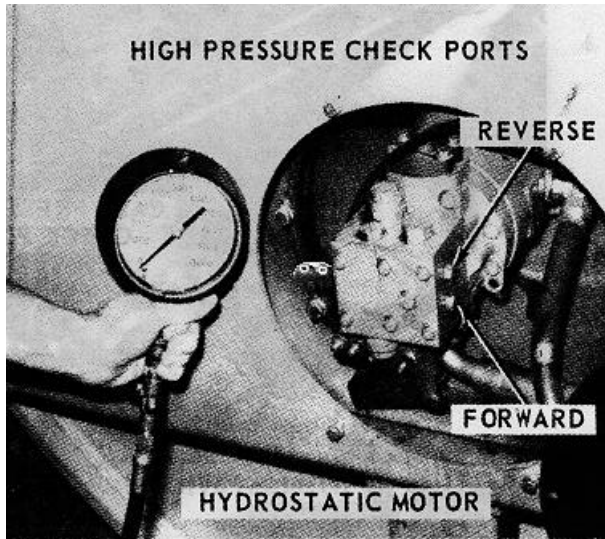

FIGURE 7-39.
7-162. CHECKING HIGH PRESSURE RELIEF (see figure 7-39).
7-163. The pressure in the high-pressure lines should be 5500 PSI (386.7 kg/cm^2) when the transmission is in a stalled condition. Two (2) high-pressure relief valves are located in the motor manifold as shown in figure 7-39. Two (2) check ports are located at the side of the manifold for checking the setting of the relief valves. Check the high-pressure valves as follows:
- c. Connect a 10,000 PSI (700 kg/cm^2) gauge to the REVERSE check port (see figure 7-39).
- e. Slowly move the Direction-Throttle Control Bail in the Reverse direction from neutral and bring the unit to stall. Observe the pressure gauge. With the transmission stalled, the gauge should indicate 5500 PSI (386.7 kg/cm^2). If not, stop the engine and remove the two (2) high-pressure relief valves. It will be necessary to disconnect the two (2) high-pressure hoses.
- g. If pressure reading at Reverse port was normal then connect the gauge to the FORWARD check port (see figure 7-39).
- i. Slowly move the Direction-Throttle Control Bail in the Forward direction from neutral and bring the unit to stall. Observe the pressure gauge. With the transmission stalled, the gauge should indicate 5500 PSI (386.7 kg/cm^2). If not, stop the engine and remove the two (2) high-pressure relief valves.